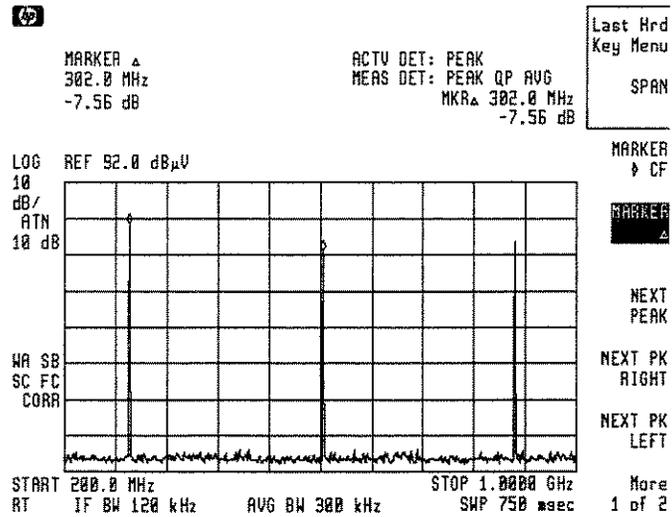

Figure 6-13. Using the Marker Delta Function
5. The amplitude and frequency difference between the markers is displayed in the active function block and in the Marker Box. See Figure 6-13.